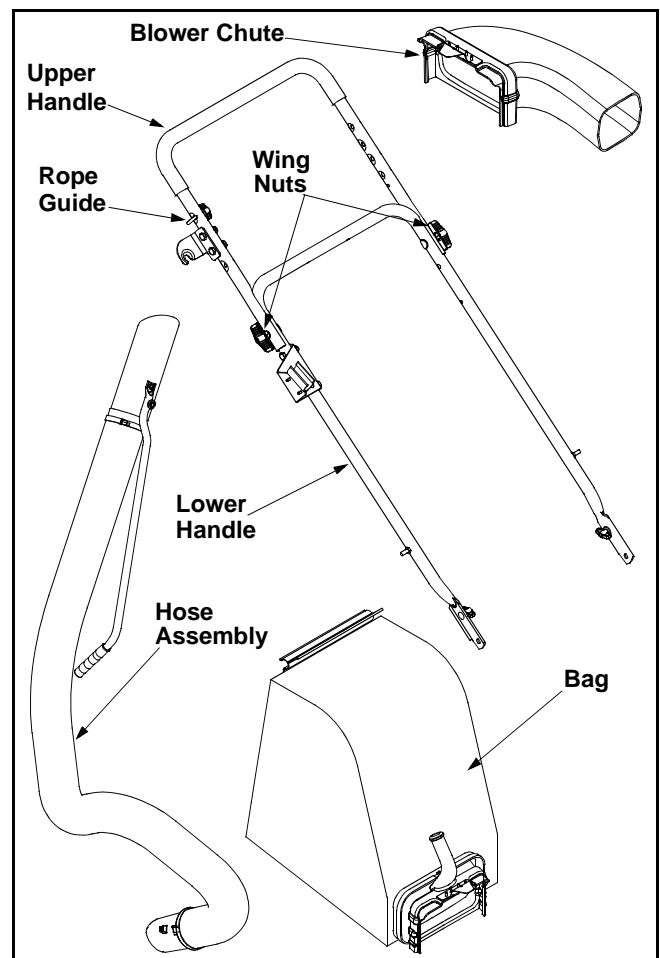

Figure 1
### Loose Parts In Carton (See Figure 1)
- Secure the two handles by tightening the wing nuts (carriage bolts must be seated properly into the handle). See Figure 1